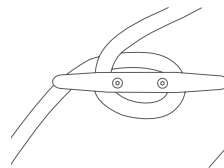

Fig 62 -
1. Make one full turn around the cleat in a clockwise direction and pull tight (Fig 62).